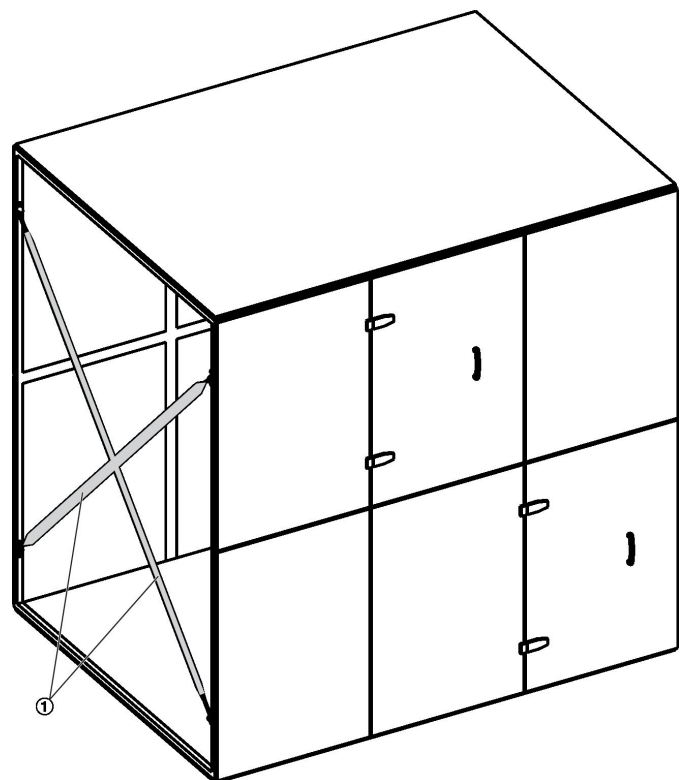

Fig. 7: Transport straps
- ▶ Cut the transport straps ( Fig. 7 / 1 ) and remove them completely.